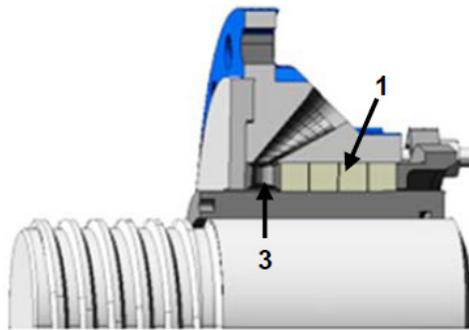

Figure 9-4: Forward Flush Design
- Forward Flush:** (Figure 9-4; 1 is the packing and 3 is the lantern ring.) This design has historically been used where gland water supply is plentiful and the addition of water to the process flow is not problematic; however, note that GIW/KSB is phasing out this design due to global water conservation initiatives. This stuffing box is no longer available on GIW/KSB’s standard pumps.